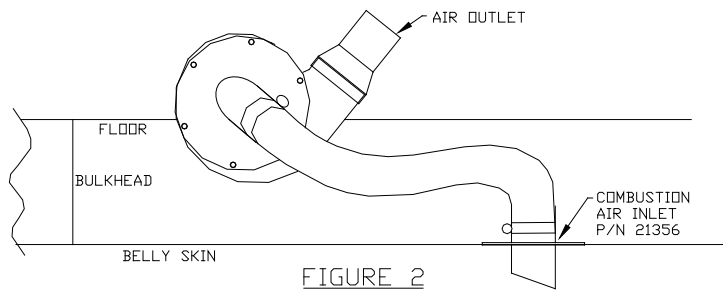

FIGURE 2
- b. Position combustion air blower assembly with the air outlet at approximately in the 2 o'clock position. (See Fig. 2)